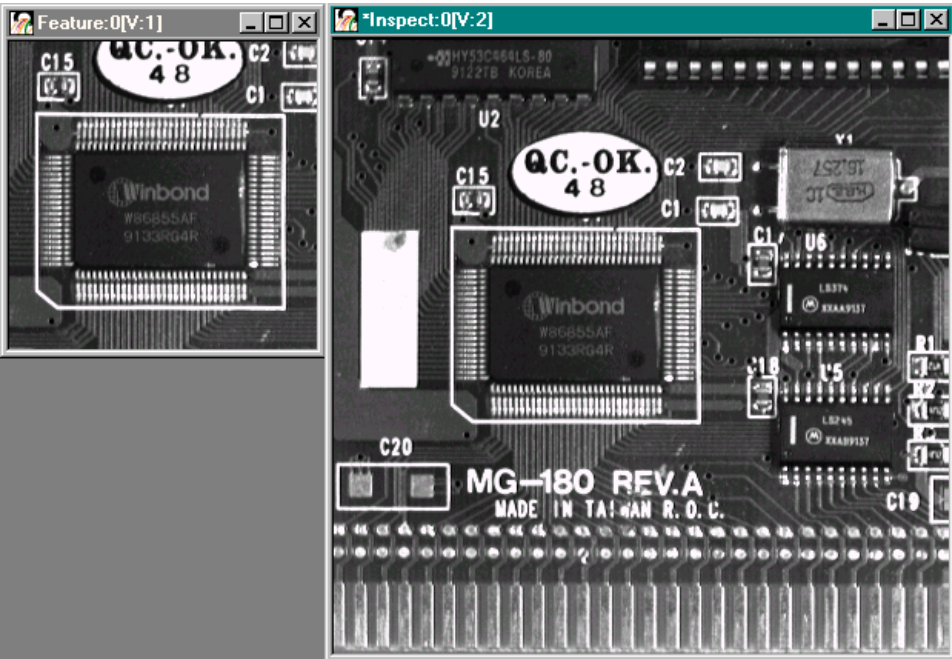

Figure 125: Search Tool Example Image
This example shows how to use the Search tool to find a computer chip in the feature image Feature in the inspection image Inspect. The Feature and Inspect images are shown in Figure 125.
2. Click in the viewport on the image Feature with the left mouse button. Feature is now the active viewport and is denoted with an asterisk, as show in Figure 125.